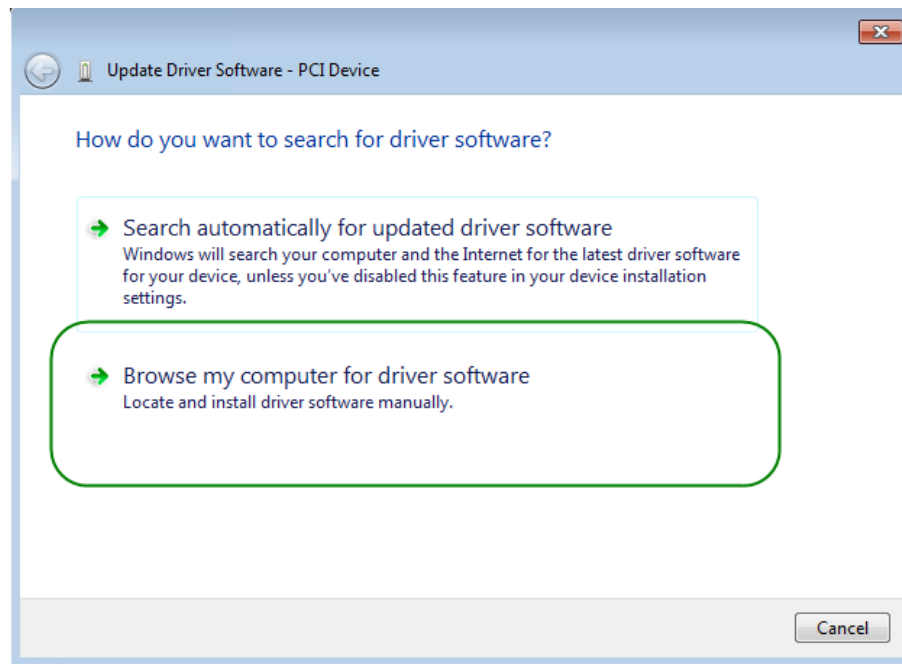

Figure 4 Dialog of Browse my computer for driver software
8. In the **How do you want to search for driver software** dialog, click **Browse my computer for driver software** item, as shown in **Figure 4**.